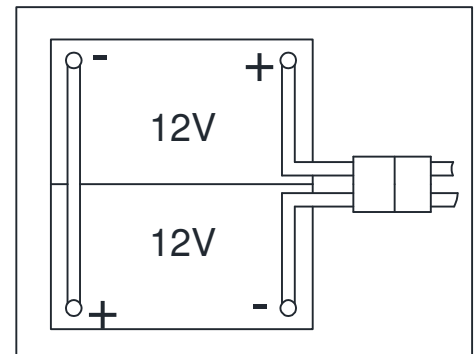

Figure 3
The machine requires two 12 V batteries, connected according to the diagram (Figure3).
- Open the recovery tank cover (1) and check that the recovery tank (25) is empty; otherwise empty it with the drain hose (22).
- Close the recovery tank cover (1).
- Overturn the recovery tank (25) carefully.
- Route and install the battery cable as shown in (Figure 3), then carefully tighten the nut on each battery terminal.
- Place the protection cap on each terminal, then connect the battery connector (54).
- Carefully lower the recovery tank (25).